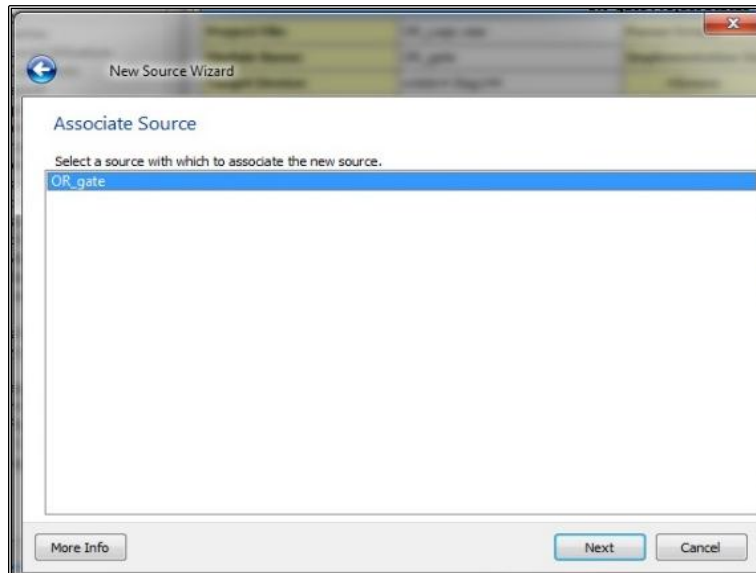

Fig 1.15: Associate Source
17. In the **Associate Source** window, select the source file with which you want to associate the test bench (Fig 1.15). Click **Next**.